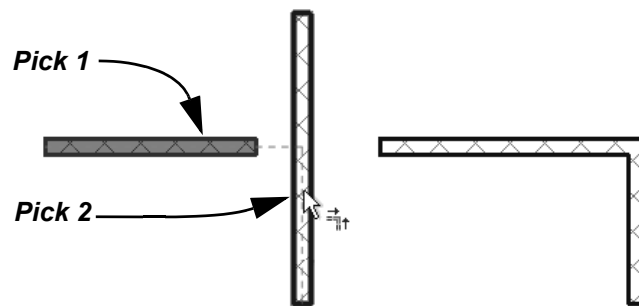

Figure 2–63
3. Select the second linear element on the side you want to keep, as shown in Figure 2–63.